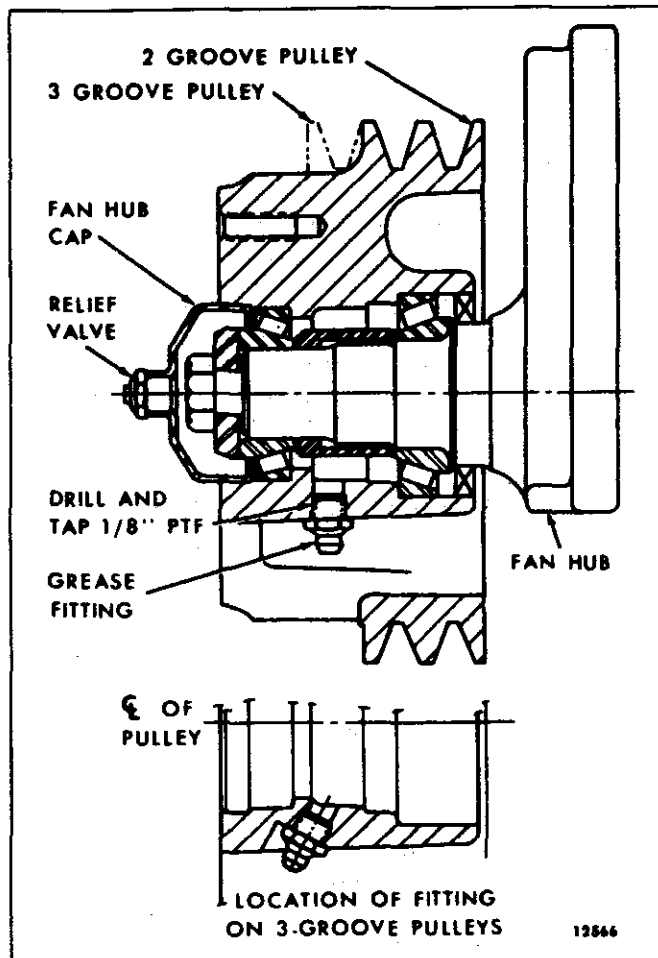

Fig. 2 – Location of Fan Hub Grease Fitting and Relief Valve
2. Drill and tap the fan hub, at the location shown in Fig. 2, to accept a 1/8" PTF x 11/16" threaded lubricator fitting. Clean the hub to remove any metal chips.
4. Install a new fan hub cap which is threaded for a relief valve (Fig. 2).